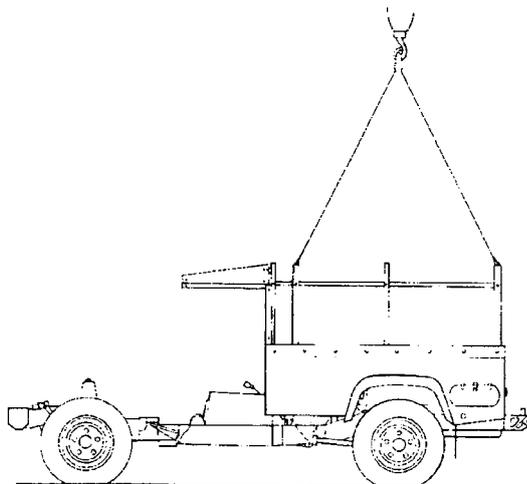

Figure 323 Removing the Body Assembly
- mm. Check that all the mounting bolts and cables have been removed or disconnected. Position suitable lifting slings at the points shown in Figure 323 and carefully raise the body using suitable overhead lifting equipment with a minimum safe working load of 500 kg. Lower the body onto suitable axle stands.
- a. Using suitable overhead lifting equipment with a minimum safe working load of 500 kg, attach the slings to the roll bars (Figure 323), raise the body assembly and then lower it on to the chassis frame and with the weight of the body still supported by the lifting equipment, ensure that all mounting brackets are positioned correctly. Fit the bolts, washers and nuts that secure the brackets to the chassis frame, but do not tighten them at this stage. Remove the slings and lifting equipment.